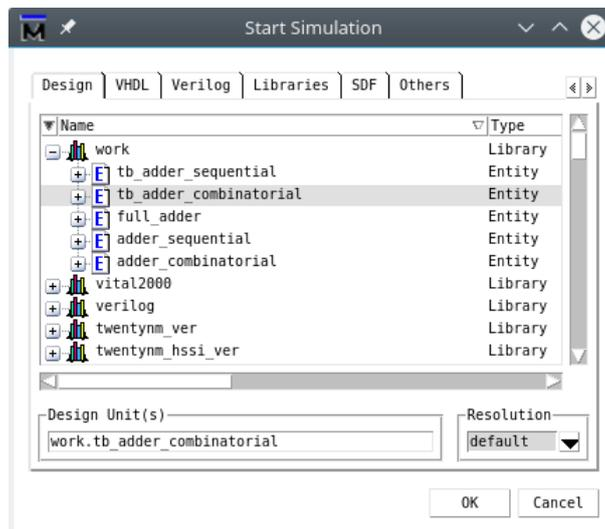

Figure 7: Start simulation
3. Select work > tb\_adder\_combinatorial, then press OK (Figure 7).